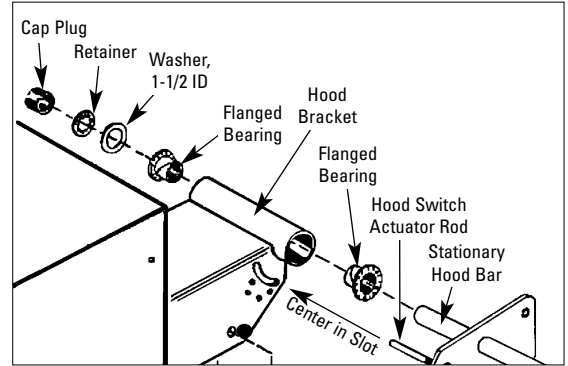

Figure 3 - Hood Assembly Installation
- 8.** Slide one flanged bearing onto the stationary hood bar; flange to cam (figure 3).
- 11.** Slide the other flanged bearing into position followed by the washer, retainer and cap plug (figure 3).